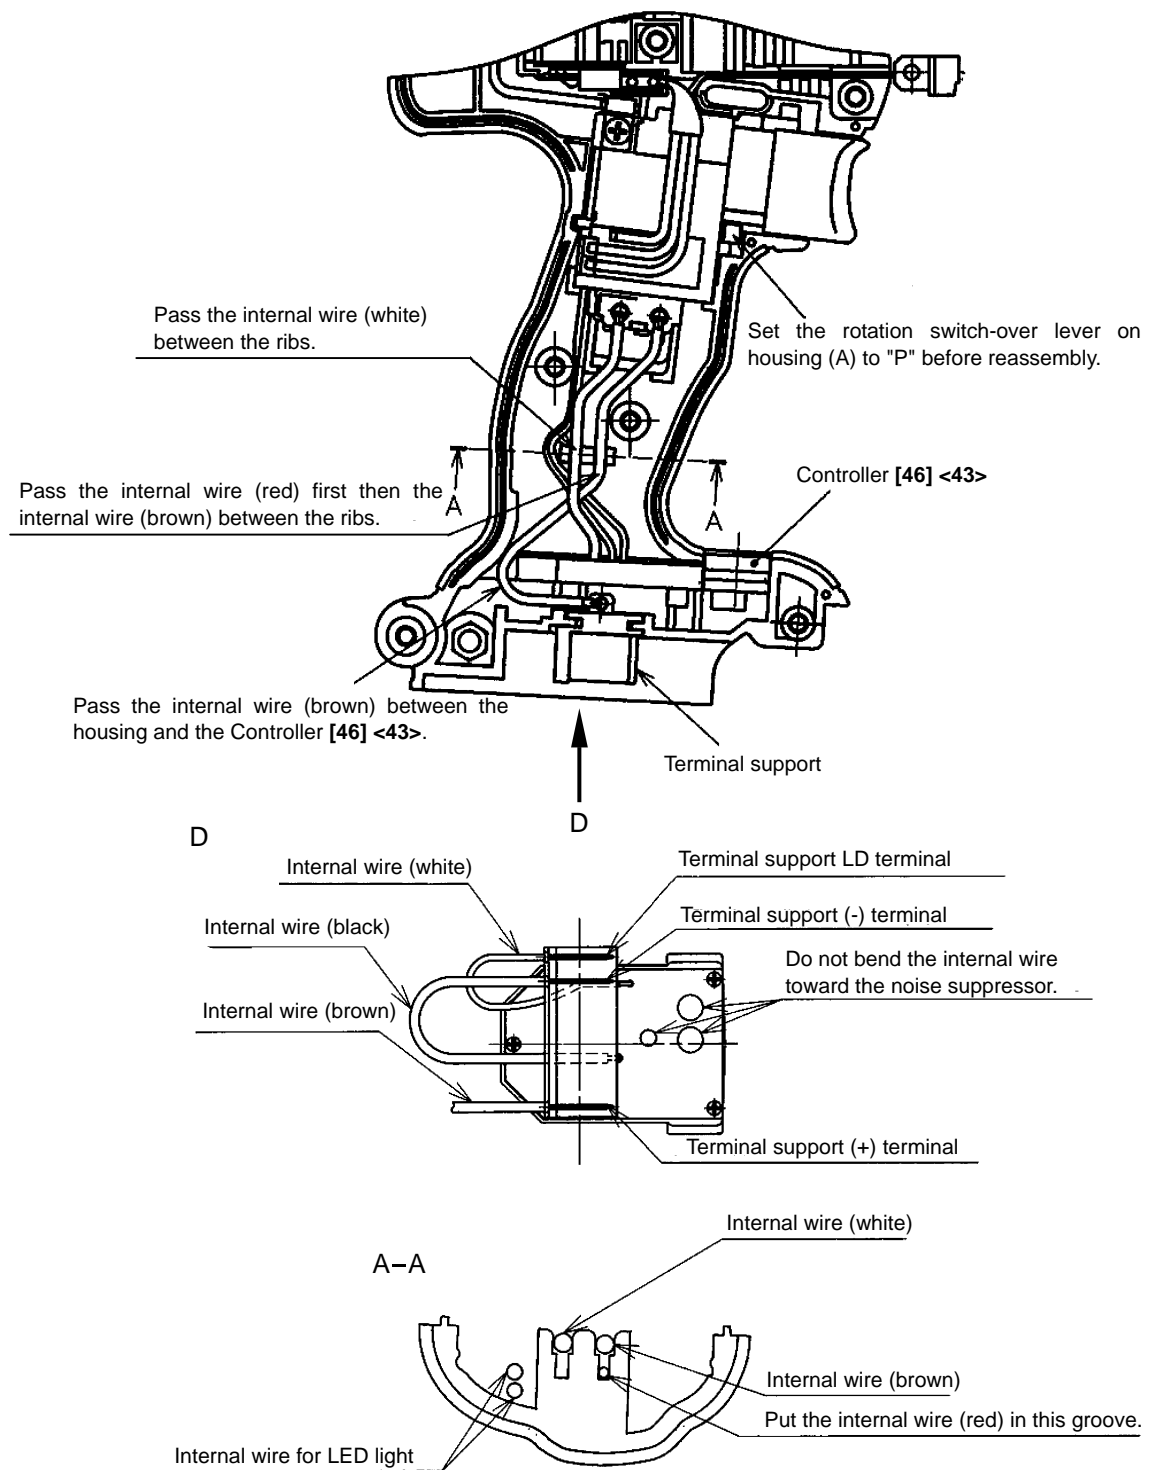

**Fig. 12**
- (c) Fit the protrusion of the forward/reverse changeover lever of the DC-Speed Control Switch [45] <42> in the hole of Pushing Button (A) [38] <35> and mount it to housing (A). When mounting the DC-Speed Control Switch [45] <42> to housing (A), check that the rotation switch-over lever is set to "P." Otherwise, the DC-Speed Control Switch [45] <42> cannot be mounted to housing (A).
- Pass the internal wire connected to the LED light between the housing ribs as shown in Fig. 12.